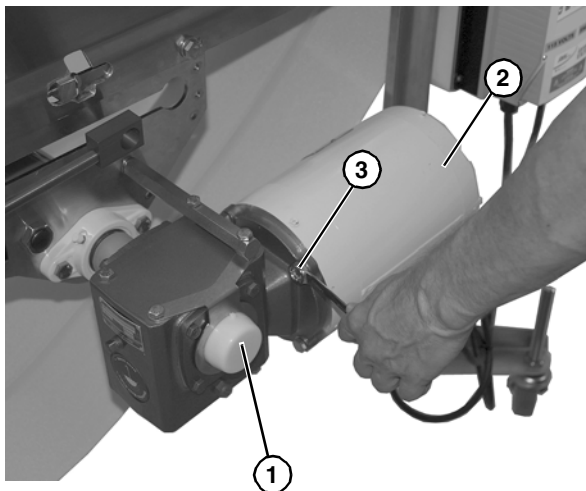

Figure 30
9. Install bearing cover (**Figure 30, item 1**).
10. Attach the motor (**Figure 30, item 2**) to the gear reducer with four bolts (**Figure 30, item 3**).